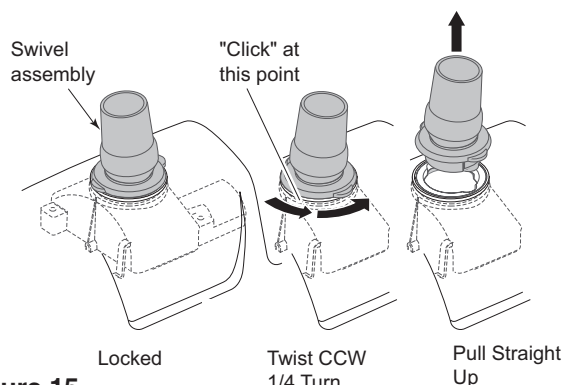

Figure 15
1. Remove swivel assembly (**Figure 15**) from the top of the Great White® II Automatic Pool Cleaner by turning it 1/4-turn counterclockwise and pulling straight up on it.